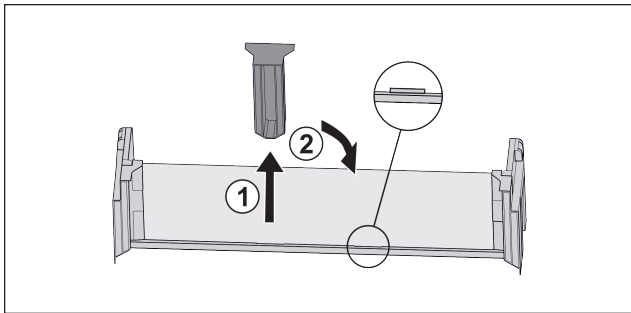

Fig. 83 \*
- ▶ Pull off the middle holder Fig. 83 (1)\*
- ▶ Insert the middle holder in the second position Fig. 83 (2)\*